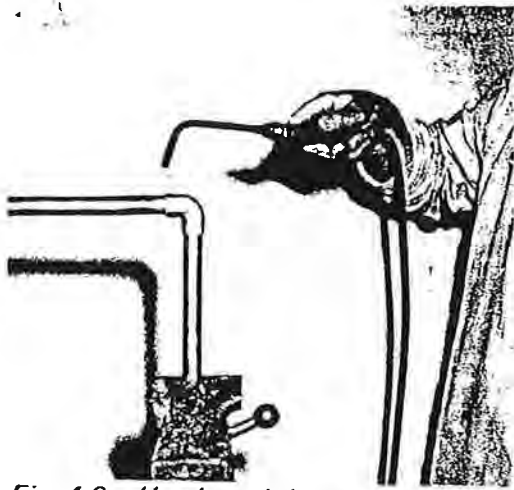
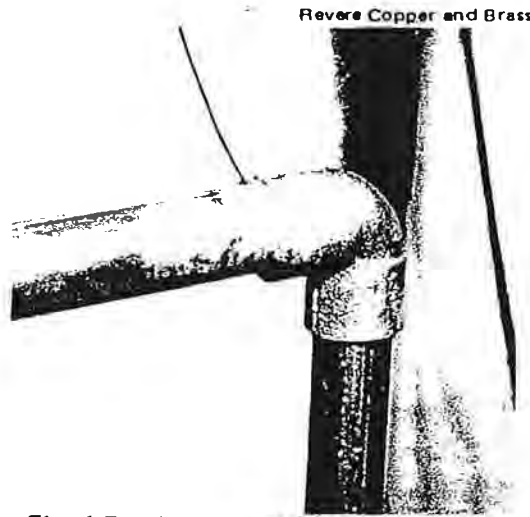

Fig. 4-6. Heating a joint to be soldered.
Fig. 4-7. Applying solder.
4.24 The joint is then heated, starting with the tubing next to the fitting, then moving to the fitting. See Fig. 4-6. When the flux begins to "fry," solder is added, as in Fig. 4-7. The heat sucks it into the space between tubing and sleeve. The fitting is then heated, on and off, and more solder is applied until the joint is fully penetrated. It is important in these steps to apply the heat evenly around the tubing. In a properly made joint, a continuous line of solder will appear where the fitting and tubing meet — at each end of the sleeve.